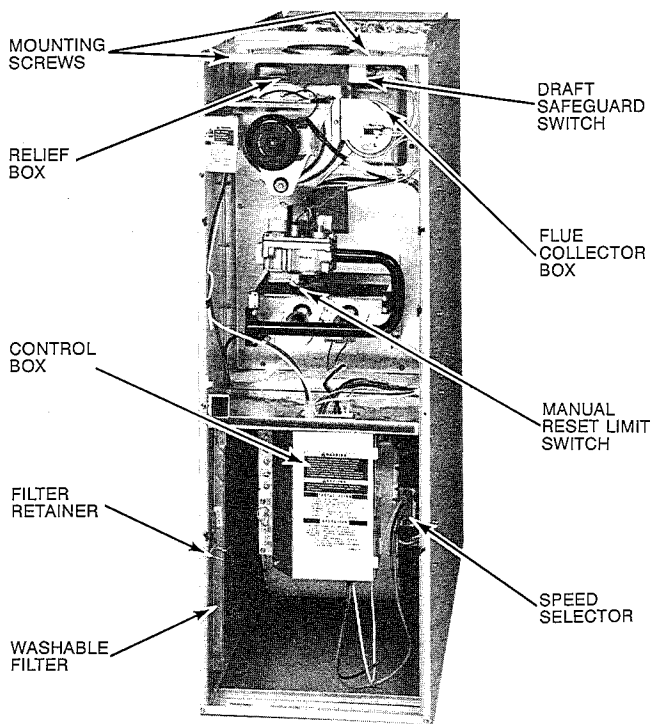

**Fig. 6—Model 58WAV Upflow**
Each furnace requires one or two filters which are installed in the blower compartment. (See Fig. 6.) To remove filters for cleaning or replacement, proceed as follows:
- b. Release filter retainer from clip at front of furnace casing. (See Fig. 6.) For side return, clips may be used on either (or both) sides of the furnace.
4. Remove electrical leads from numbered side of Molex speed selector. (See Fig. 6 and 7.) Note location of wires for reassembly.
4. Remove two screws that secure relief box. (See Fig. 6 or 7.)